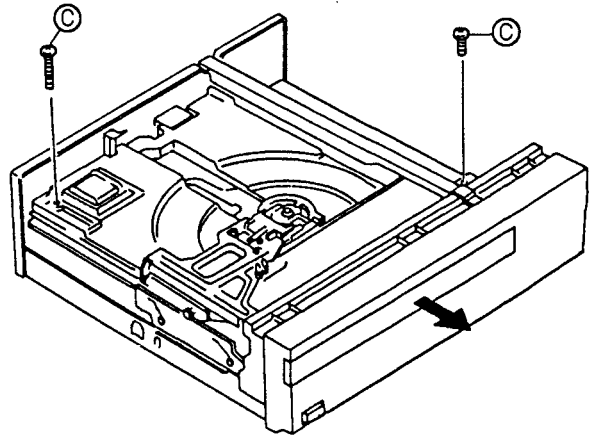

Fig. 7-2
## 7.2 REMOVING THE TRAY(Fig. 7-2, 3)
- ① Remove two stopper screws (C) shown in Fig. 7-2. When the power can be turned ON, press the OPEN (▲) button then pull the tray out from the player.